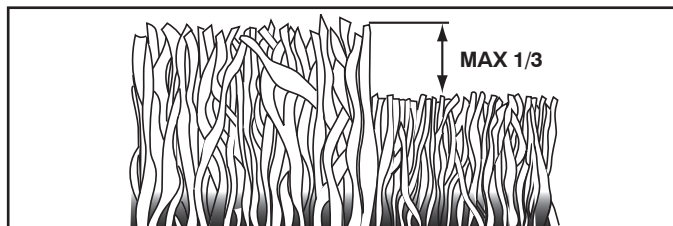

Fig. 19
- For best results, adjust the mower cutting height so that the mower cuts off only the top one-third of the grass blades (See Fig. 19). For extremely heavy mulching, reduce your width of cut on each pass and mow slowly.